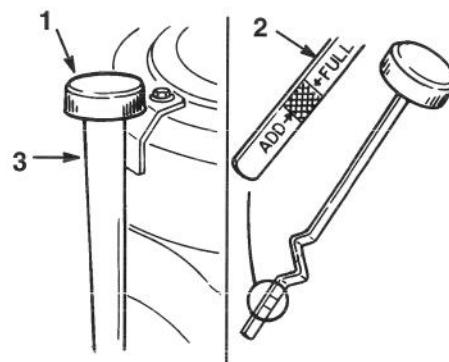

Figure 18
3. Clean around the oil dipstick (Fig. 18) so dirt cannot fall into the filler hole and damage the engine.
4. Unscrew the oil dipstick and wipe the metal end clean (Fig. 18).
5. Slide the oil dipstick fully into the filler tube, do not thread onto tube (Fig. 18). Pull the dipstick out and look at the metal end. If oil level is low, slowly pour only enough oil into the filler tube to raise the level to the “FULL” mark.
7. Slowly pour approximately 80% of the specified amount of oil into the filler tube (Fig. 18). Now check the oil level; refer to Checking Oil Level, page 22. Slowly add additional oil to bring to "FULL" mark on dipstick.